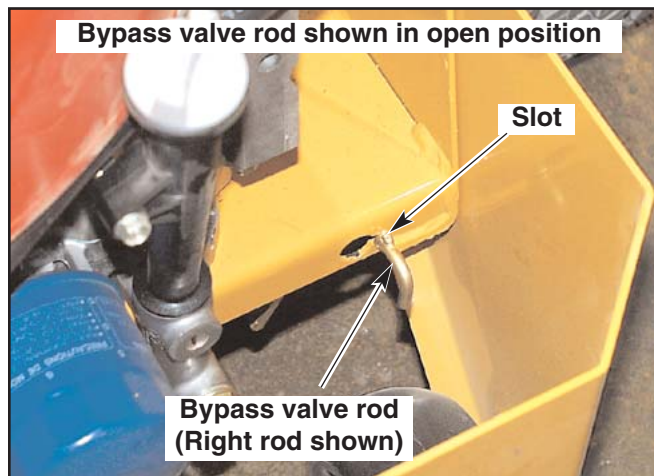

Figure 9-10
10. With the bypass valves open (Fig. 9-10), on both transmissions, an operator on the seat and the engine running at 1/2 throttle, slowly move both control levers forward and rearward 5 to 6 times to allow air to be purged from the system. As this occurs, the oil level will drop.